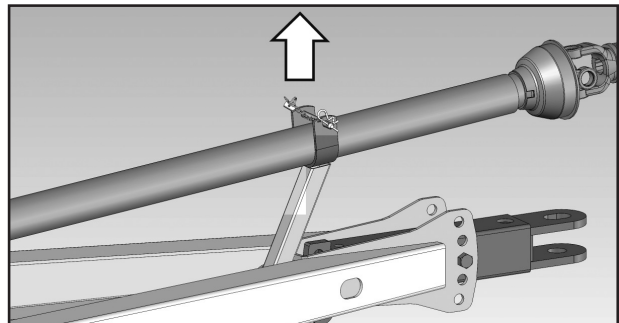

Figure 23- Released driveshaft
1) Release the end of the driveshaft from its support on the bagging machine towbar as shown in Figure 23.